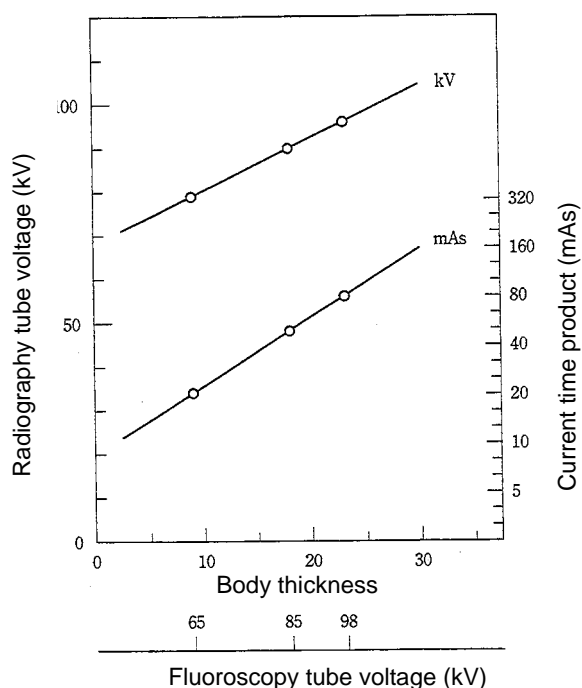

Fig. 4.18.1 Memory Shot Initial Conditions (Direct Radiography)
- (3) Manually set the initial conditions 82 kV and 32 mAs for 18 cm thickness from Fig. 4.18.1.
- (4) At the remote console, select film full-area radiography and auto-focus collimator.
- (5) Conduct fluoroscopy spot filming. Measure and record the film density.
If the film density is appropriate density - 0.3, make the following changes to the mAs values from Fig. 4.18.1.
Make the following changes to the data in Fig. 4.18.1.